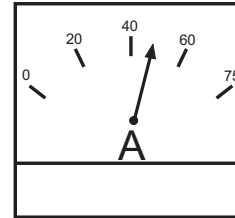

Figure 39. Ammeter (Load)
20. Observe the generator's ammeter (Figure 39) and verify that it reads the anticipated amount of current with respect to the load. Remember the ammeter will only display a current reading if the load is in use.